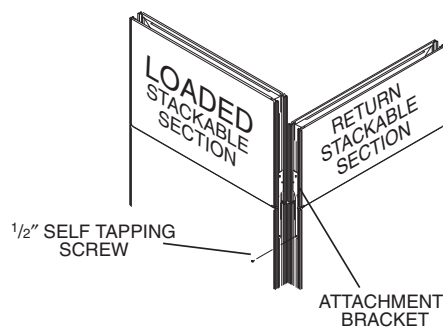

FIG. 4
11. When a stackable panel section is used as a return for a loaded stackable section, or a loaded standard panel, an additional $\frac{1}{2}$ " self tapping screw should be driven through the leg of the attachment bracket and into the full panel trimrail. Drill a $\frac{1}{8}$ " pilot hole into the trimrail of the full panel first, using the bracket leg as a guide (Figure 4).